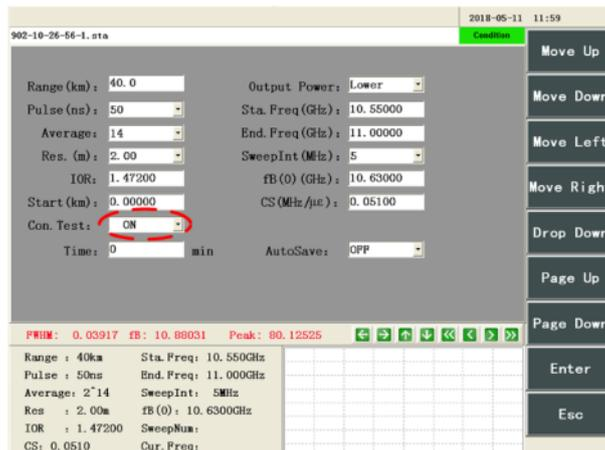

Figure 8-17 Continuous test parameter setting
Step 2: Select “ON” through the continuous test drop-down menu to start the continuous test. At the same time, the continuous test option will appear on the test condition setting interface: **Time**, **Autosave** options, if select autosave, **File No.**, **File type**, and **SavePath** can be set, as shown in Figure 8-17. After setting the parameters, click OK and click the [Test] button on the front panel to start the test.